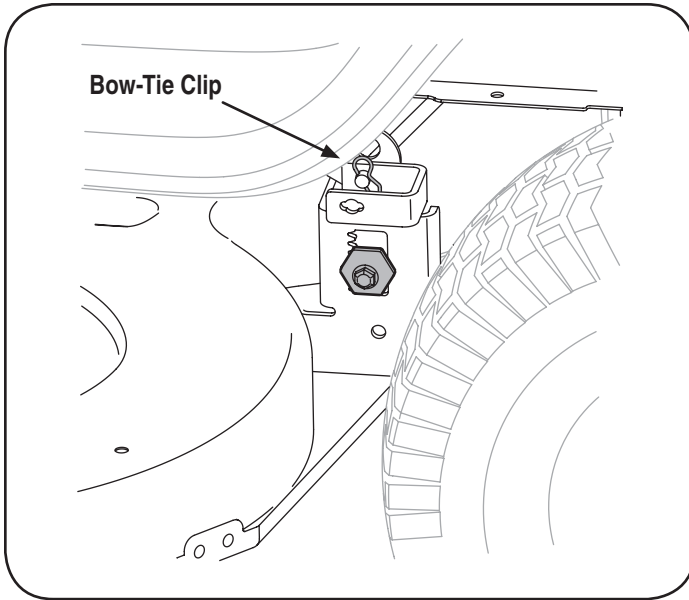

Figure 24
5. Looking at the cutting deck from the left side of the tractor, locate the bow-tie pin that secures the deck support rod on the rear left side of the deck. See Figure 24. Remove the bow-tie pin that secures the deck support rod, and carefully remove the deck support from the deck lift arm.